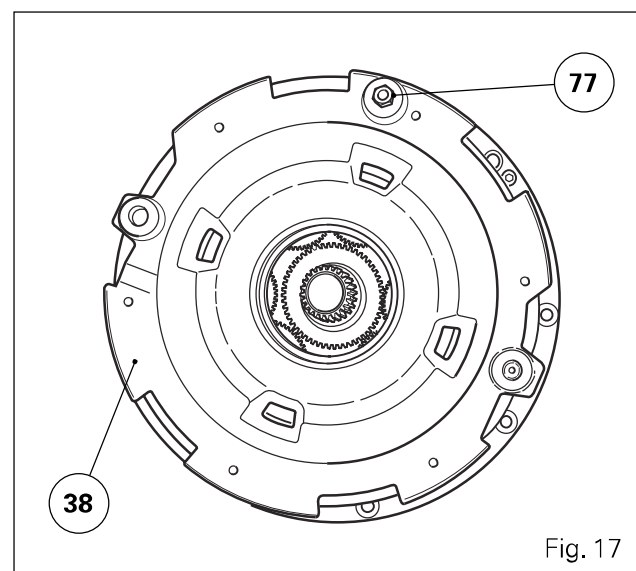

Fig. 17
- 64. Remove the thick springs (62) and the pins (71).
- 65. On cover (38), remove:
- the plate (43)
- the seal (42) and discard it
- the piston (39)
- the seals (36) (41) and discard them
- the unions (72), the 13 bar valve (77) (Fig. 17) and seal (75) on the 17 bar supply port (Fig. 3).
90. On the outside face of the cover (38), place three sufficiently long and equally spaced studs in the holes provided for screws (64).
91. Fit and position the cover, with the 13 bar valve port (77) turned upwards (Fig. 17).
95. Install the 13 bar valve (77) with its seal on cover (38) and tighten to a torque of 12.5 Nm - 13.5 Nm **maximum**. (Fig. 17). Fit and tighten the unions (72).